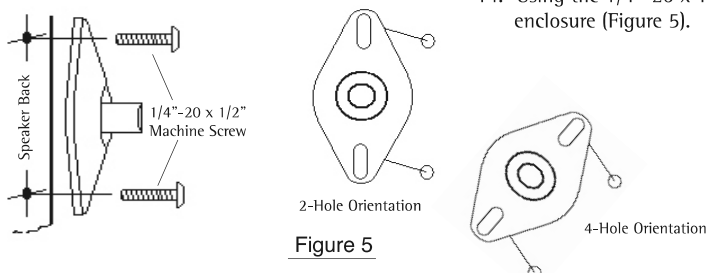

Figure 5
- Find the best mounting configuration that matches your speaker enclosure. Four-hole speaker mount patterns can be accommodated by positioning the speaker plate diagonally (Figure 5).
- Using the 1/4"-20 x 1/2" machine screws, install the speaker plate and secure the speaker enclosure (Figure 5).